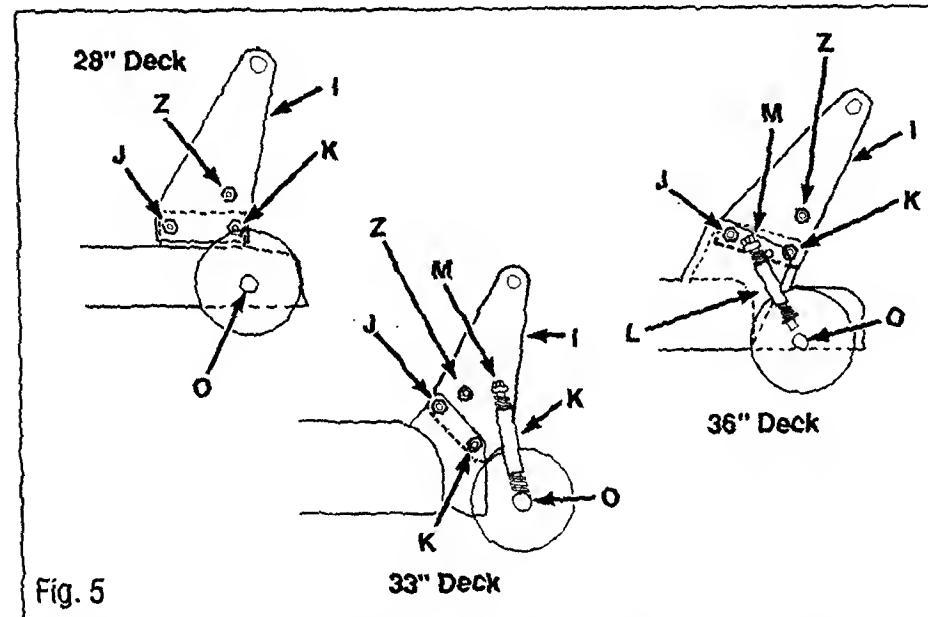

Fig. 5
1. **33" DECKS:** Place lift plate (I) on *inside* of bracket on mower deck (See Fig. 5).
2. **28" & 36" DECKS:** Place lift plate (I) on *inside* of bracket on mower deck (See Fig. 5).
3. **28" & 36" DECKS:** Place pivot (M) into desired height setting hole in lift plate (I) and secure with washer and spring pin. See GAGE WHEEL ADJUSTMENT to determine proper height.